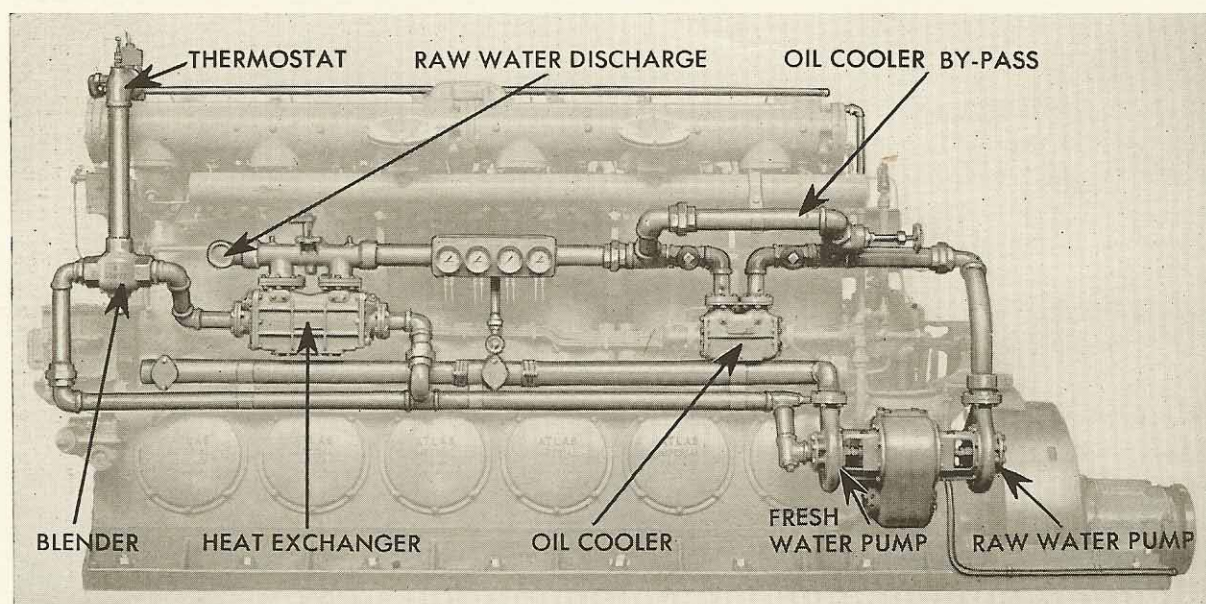

FIGURE 3-7
25. FRESH-WATER COOLING: A way of preventing salt or mud deposits in the engine jackets is to circulate only fresh, clean water through the engine in a closed system, namely, a system in which all of the discharge water is returned to the pump suction, making a closed circuit. This supply of fresh water is cooled after it leaves the engine by a heat exchanger. An engine equipped for fresh-water cooling is shown in Figure 3-7.